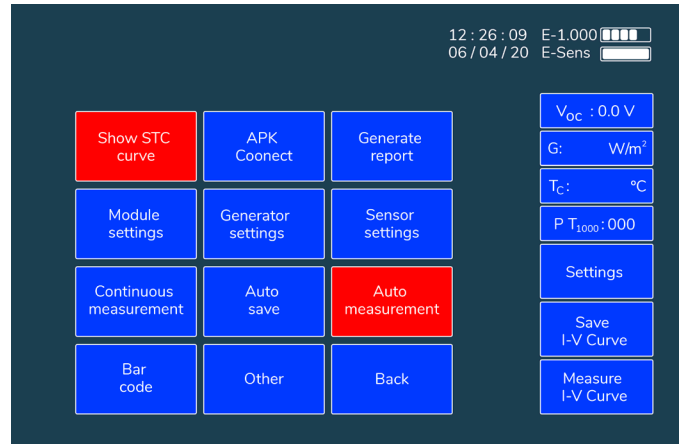

Figure 5.8. Image of the settings menu.
An image of the settings menu can be seen in *Figure 5.8*. From this menu all the necessary device configurations can be performed. There are three types of functions or settings that can be found in the settings menu: operating options, parameter settings, and additional functions.
2. Within the settings menu, access the "Generate report" submenu (see Figure 5.8.).